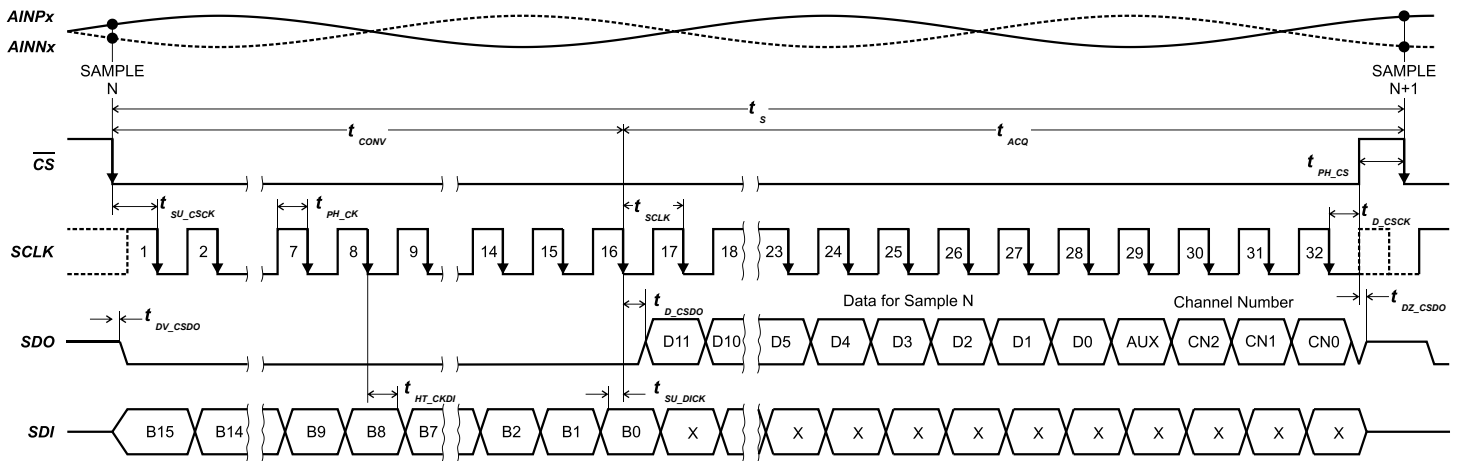

Figure 9 – Serial interface timing diagram
Configuration of the IRL5111FI device, as well as starting and obtaining the result of the analog-to-digital conversion, is performed through a four-wire SPI interface. The timing diagram of its operation is shown in Figure 9.
- Fields D11-D0 (see Figure 9) contain the ADC conversion result.
¹⁶ Defines the information to be presented in AUX-CN2-CN1-CN0 fields of the frame (See Figure 9):